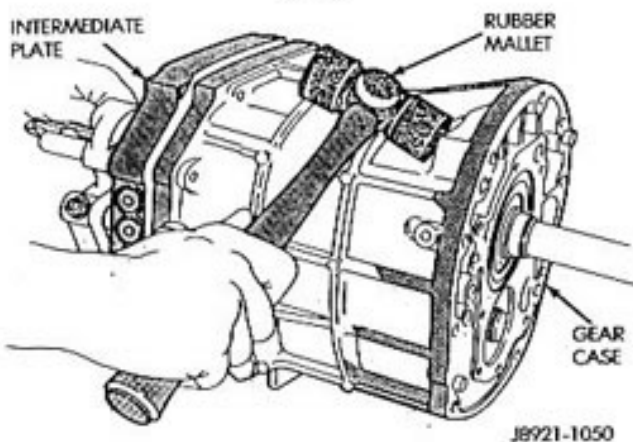

Fig. 20 Loosening Gear Case
- (5) Loosen the gear case by tapping it away from the intermediate plate with a rubber mallet (Fig. 20).